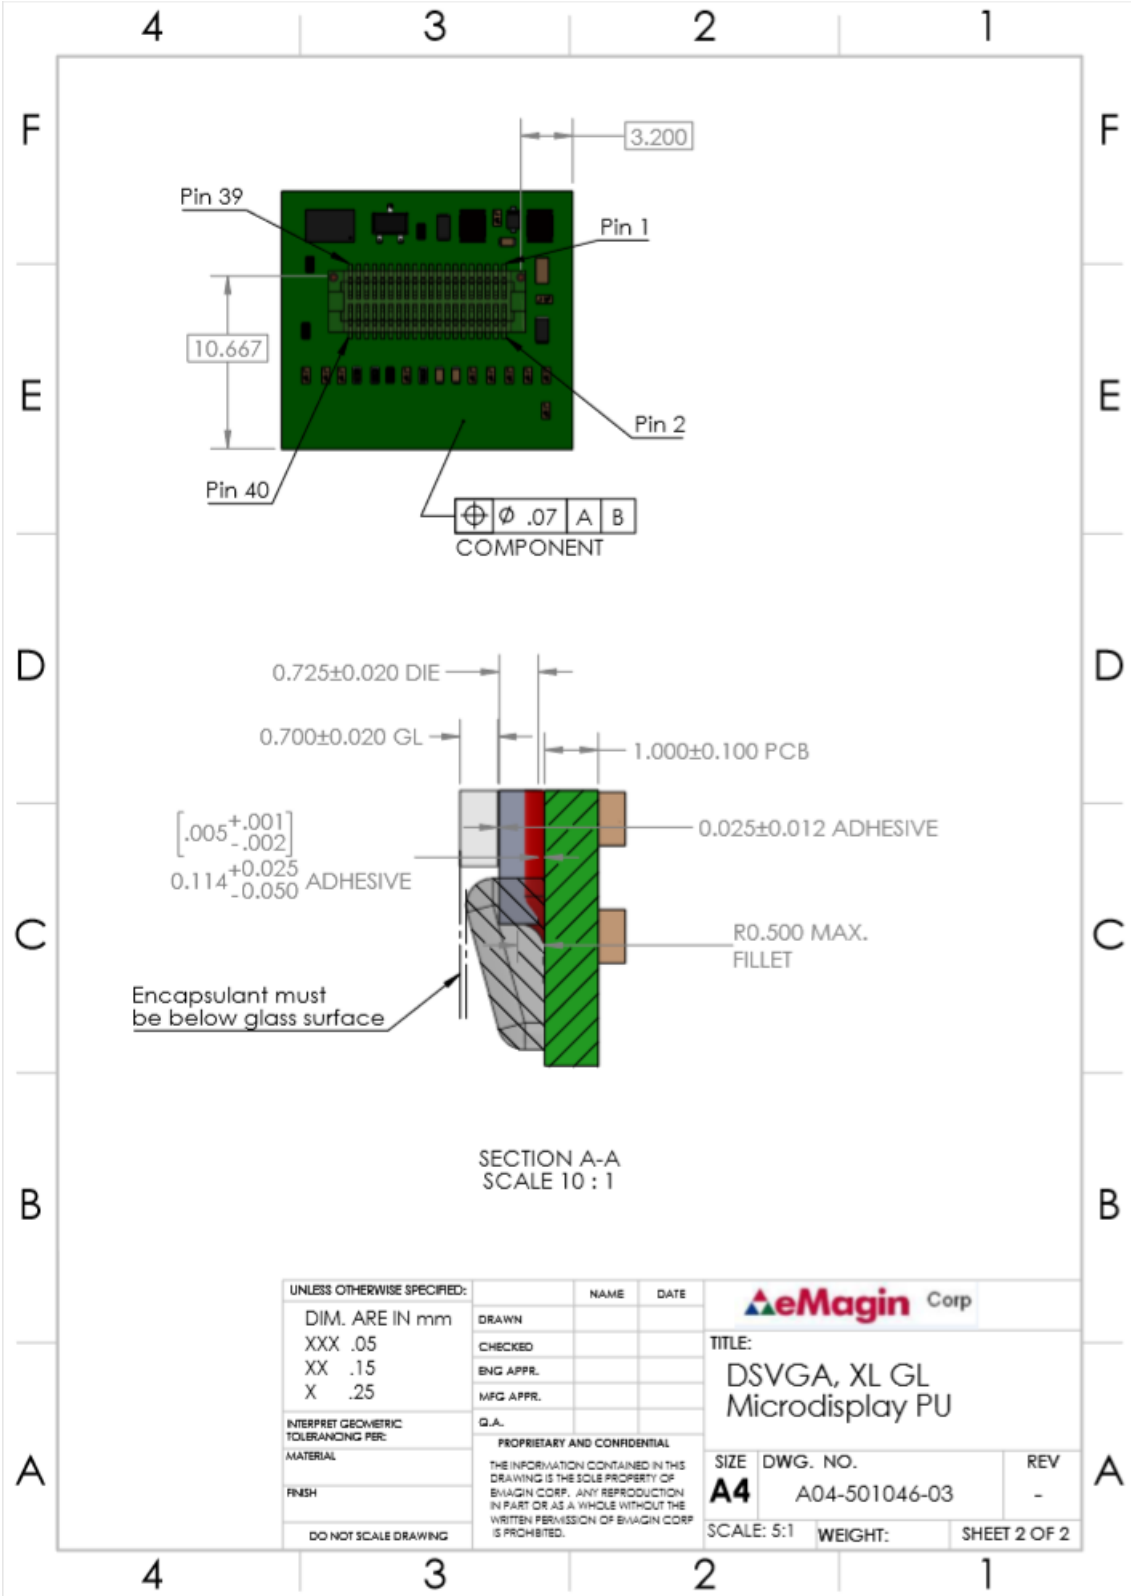

Figure 7: DSVGA Microdisplay Assembly Drawing - Detail
The 24-bit digital input port is comprised of three 8-bit data busses that make up the RGB data inputs. Separate synchronization signals (VSYNC and HSYNC) and the pixel clock (SCLK) are to be provided by the external video source. The data valid signal (DE) is used to signal the start of loading a row of data into the internal line memory. An active ENABLE signal is required for the Stereovision mode (inactive for all other modes, except Interlaced Video). The timing diagram for the input data bus is shown in Figure 7.